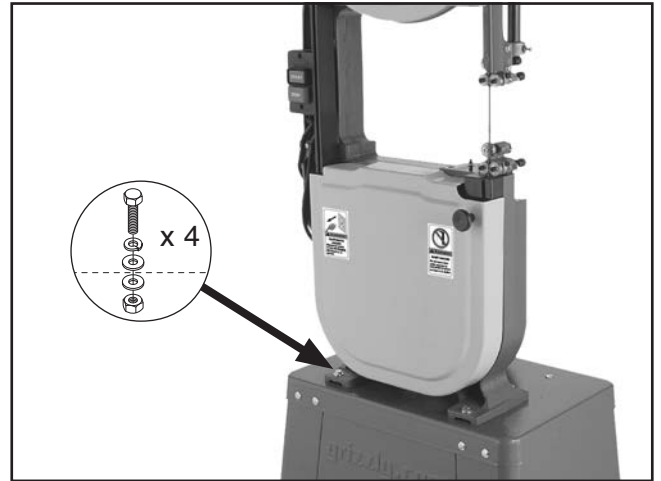

Figure 13. Bandsaw assembly attached to the stand.
- Secure the bandsaw assembly to the stand with (4) M8-1.25 x 35 hex bolts, (8) 8mm flat washers, (4) 8mm lock washers, and (4) M8-1.25 hex nuts, as shown in **Figure 13**.